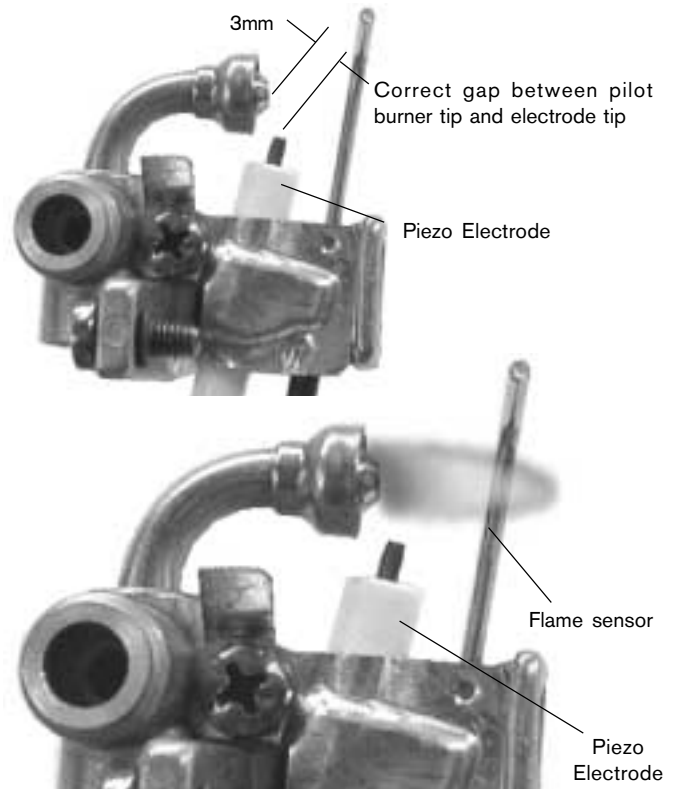

Fig. 12 - Characteristic Pilot Flame
Pilot Flame: The pilot flame should burn with a clean, sharp, blue flame and should resemble the diagram in Fig. 12. If the flame is soft and yellow, the pilot burner orifice may need to be cleaned or serviced. The pilot flame should be approximately 2 inches long, extending past the flame sensor. If the flame is too small, it will not reach the flame sensor and the burners will not come on.
1. **Confirm the flame sensor is in its proper position.** see Figure 12.